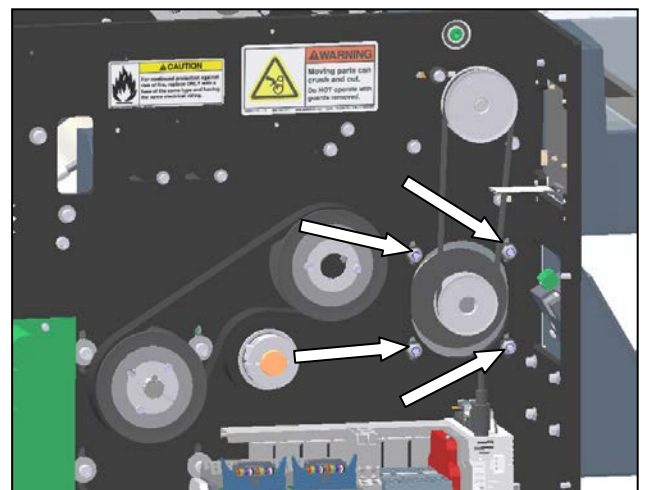

Figure 3-152. File Feed Drive Motor Mounting
2. Loosen the four motor mounting screws. The head of the screws can be accessed through the opening exposed by removing the load plate (Figure 3-152).